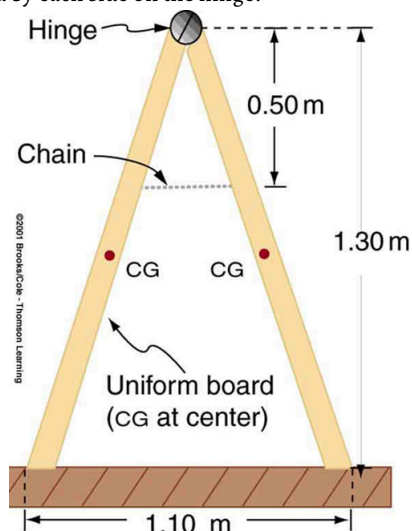

Figure 9.34 A sandwich board advertising sign demonstrates tension.
14. A sandwich board advertising sign is constructed as shown in Figure 9.34. The sign's mass is 8.00 kg. (a) Calculate the tension in the chain assuming no friction between the legs and the sidewalk. (b) What force is exerted by each side on the hinge?
15. (a) What minimum coefficient of friction is needed between the legs and the ground to keep the sign in Figure 9.34 in the position shown if the chain breaks? (b) What force is exerted by each side on the hinge?